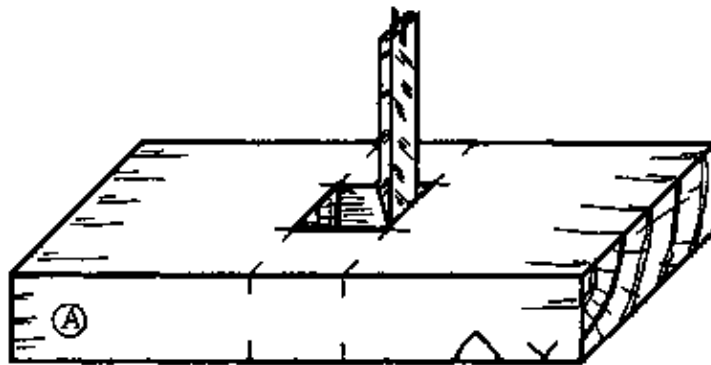

Fig. 7
– Carefully chop out the rest of the mortice up to the lines (Fig. 7). Keep the bevel of the chisel towards the inside of the mortice. Do not use the mallet.